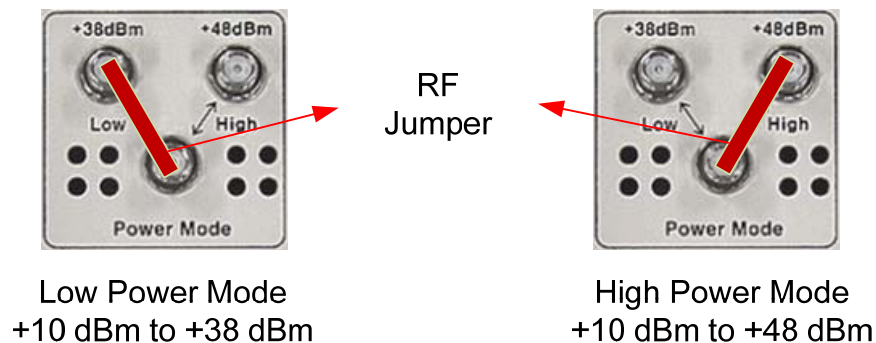

Figure 5.2.5 RF Jumper Cable connection for Low and High Power Mode
- BTS TX/RX Port: Mini-DIN (F)
- DAS TX OUT/RX IN Ports: QMA (F)
- Spectrum TX/RX Monitor Ports: QMA (F)
The user must determine if the Active SPOI will be operating in the High or Low power mode, and install the jumper (supplied) in the correct position. The High (H) and Low (L) power mode configurations are shown below in figure 5.2.5. There is no DIP or toggle switch to select power mode. Based on jumper cable connection and input signal power, the unit will determine its operating mode automatically.